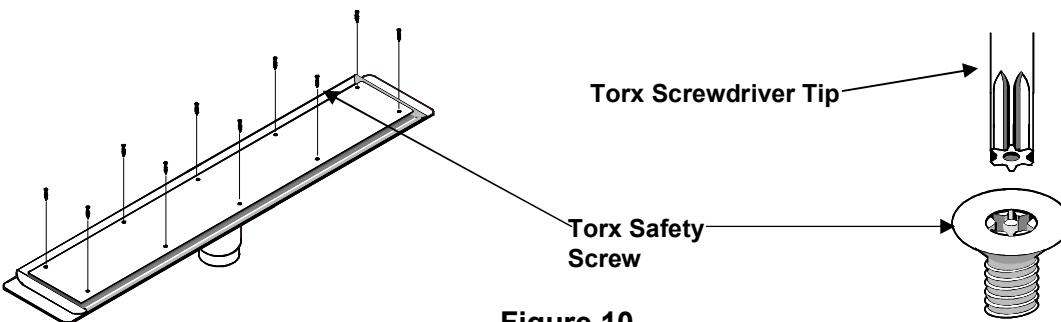

Figure 10
19. Install the top on the Channel Drain. Use **ONLY** the supplied Torx safety screws (screwdriver tips are included in the packet with the screws see Figure 10)